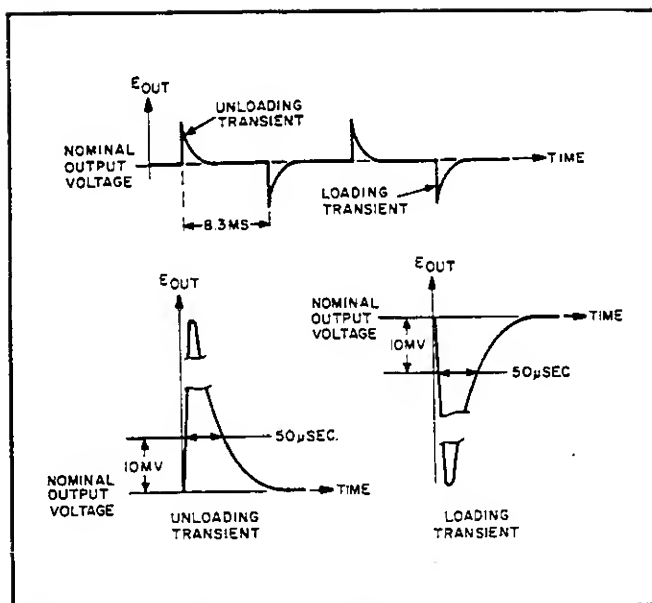

Figure 5-5. Load Transient Recovery Time Waveforms
k. Starting from the major graticule division representing time zero, count to the right 50μsec and vertically 10mV. Recovery should be within these tolerances as illustrated in Figure 5-5.